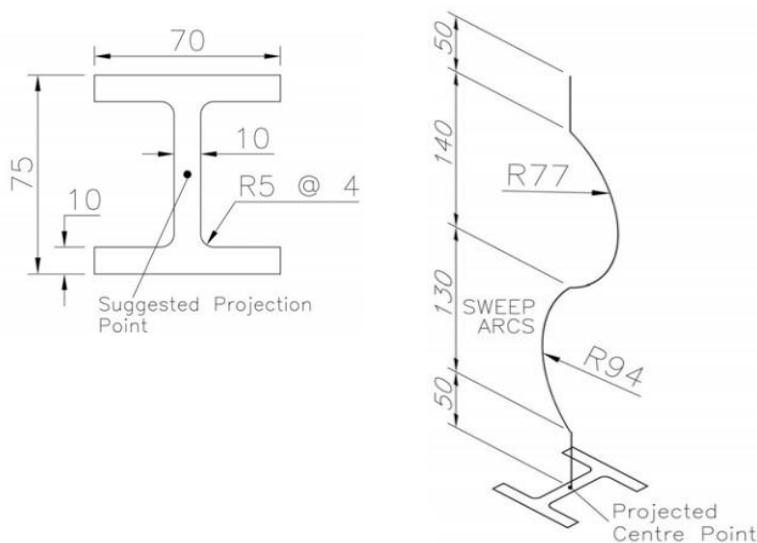

Figure 2 (a): I beam
- a) **Figure 2 (a)** shows a fully dimensioned model of an **I beam** (dimensions in millimeters). Using 3-Dimensional Modeling Capability of AutoCAD reproduce a drawing of the Top View, Sectional Front View, Side View and a shaded Isometric view. Include at least 6 dimensions and export a pdf of your drawing on A4 paper. (14 marks)
b) Figure 2 (b) shows a fully dimensioned model of a **trophy** (dimensions in millimeters).